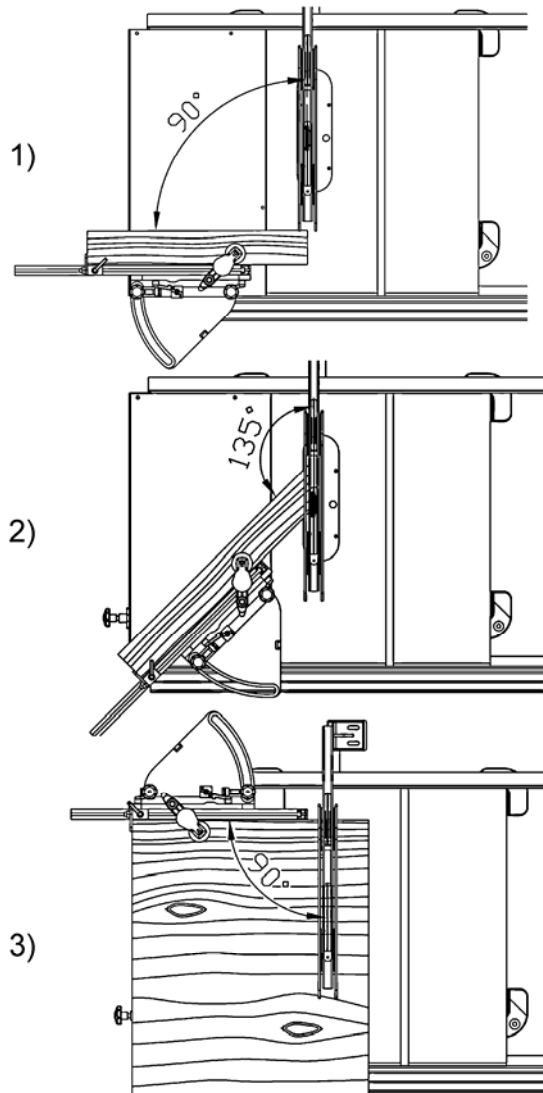

Figure 14
- (1, Fig. 14) One set of threaded holes, up front to the far left, are for 90°-45° cutting.
- (2, Fig. 14) The staggered set of threaded holes, up front to the right, are for 90°-135° cutting. **Note:** using this position with the blade tilted to 45° you need to remove the miter gauge handle found on the right side and replace with the supplied 90° handle.
- (3, Fig. 14) The set of threaded holes, on the far side, are used for cutting at 90°.